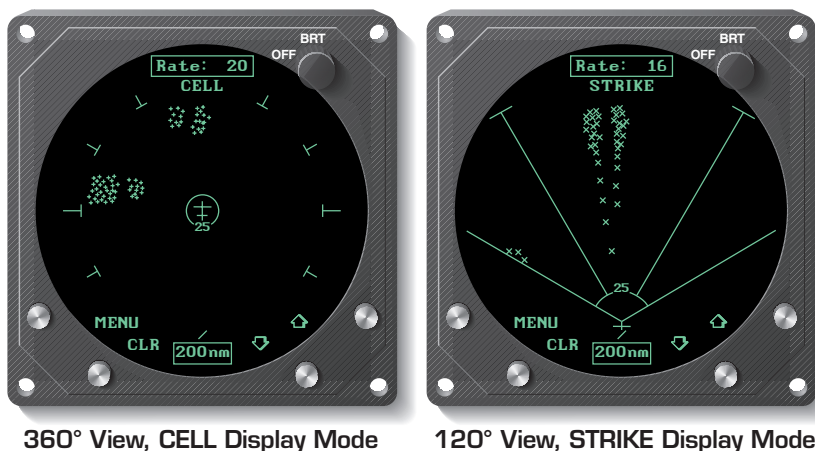

Figure 1-3. WX-950 Weather Views
The antenna detects the electric and magnetic fields generated by intra-cloud, inter-cloud, or cloud-to-ground electrical discharges that occur within a 200 nmi radius of the aircraft and sends the resulting “discharge signals” to the display/processor. The display/processor digitizes, analyzes, and converts the discharge signals into range and bearing data then stores the data in memory. The WX-950 then displays discharges as storm cells or strikes depending on the display mode selected (figure 1-3).
- Two operator-selectable weather views (figure 1-3):